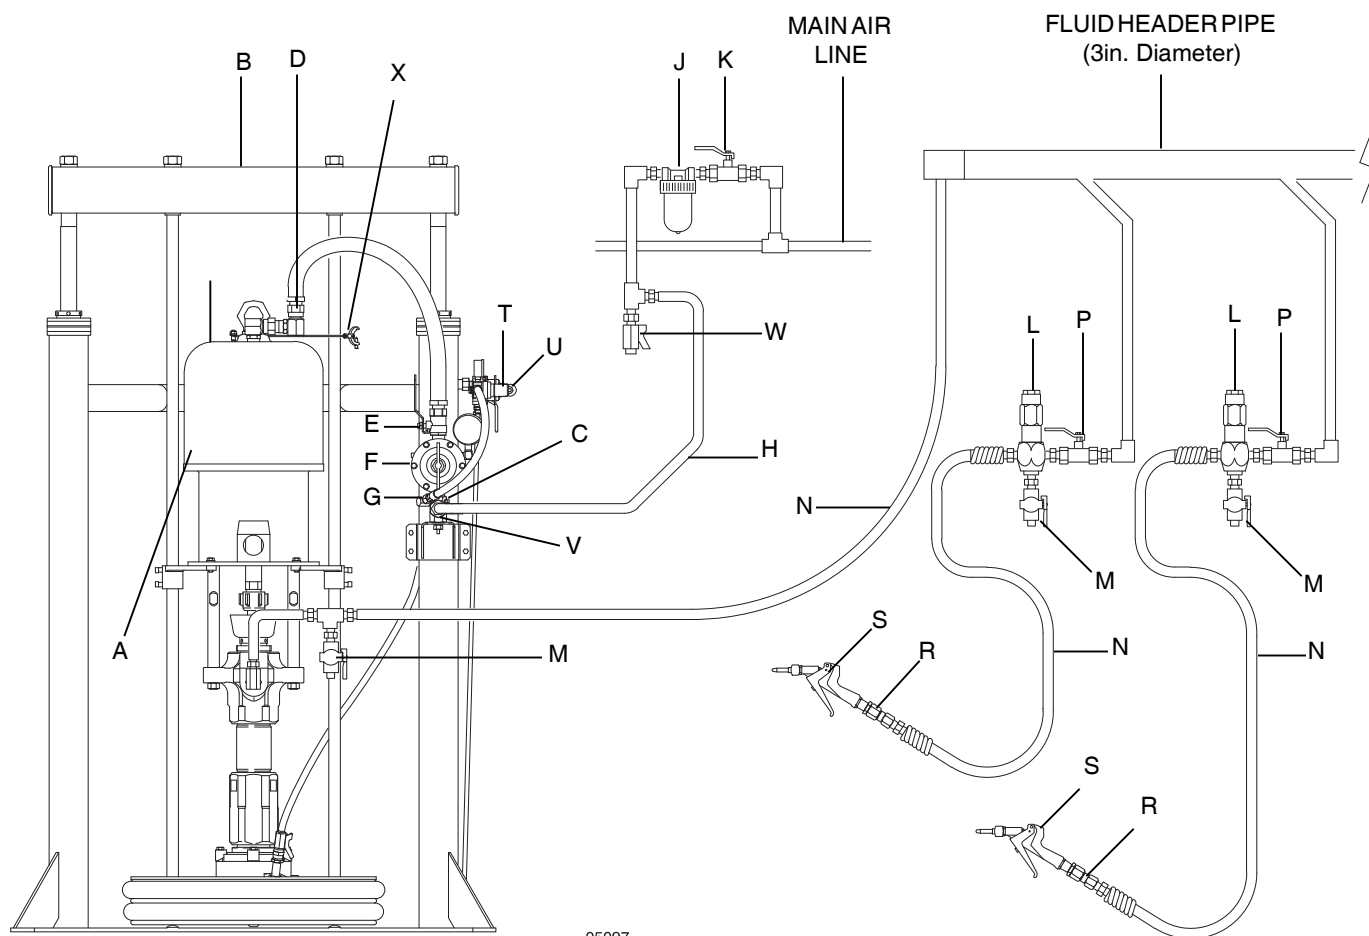

FIG. 2: Typical Installation
Install the following accessories in the order shown in FIG. 2, page 7, using adapters as necessary.
Mount the pump (A) to suit the type of installation planned. FIG. 2 on page 7 illustrates a ram-mounted pump in a multi-valve header system. Pump dimensions and the mounting hole layout are shown in **Dimensions**, page 27.
The Typical Installation shown in FIG. 2 is only a guide for selecting and installing system components and accessories. Contact your Graco distributor for assistance in designing a system to suit your particular needs.